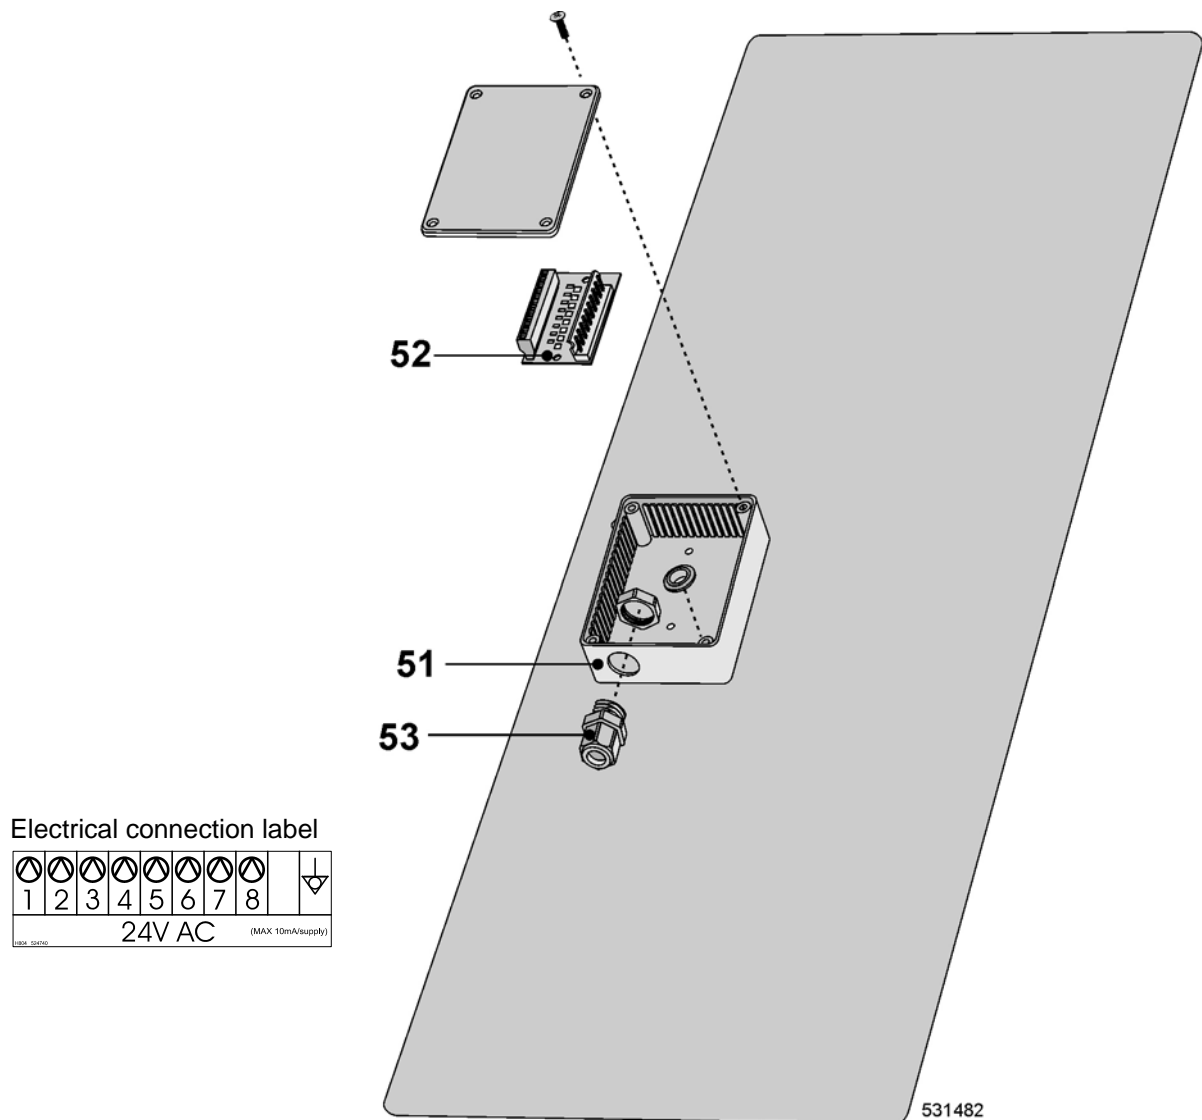

Fig.4.4.H.
For electric connection of supply control signals a plastic box is available on the upper stand of the machine (see fig.4.4.H., pos.51) with the terminal box with LED signalization of activation of the respective pump, (pos.52). Under the terminal box there is a label for electric connection, fig.4.4.H. Detail connection of signals could be also found on the electric scheme of the machine. Signals for supply pumps control are 24V AC. Maximum current for control circuits of pumps must be limited to 10mA. Lead the cable for connection of pumps control signals through the plastic cable bushing, position 53. After connection of conductors to the respective positions of the connector „P“ (screw clamps), fix up the cable by tightening the cable bushing) against disconnection and close the box with the cover. For details about liquid soap supply system programming, see Programming manual.